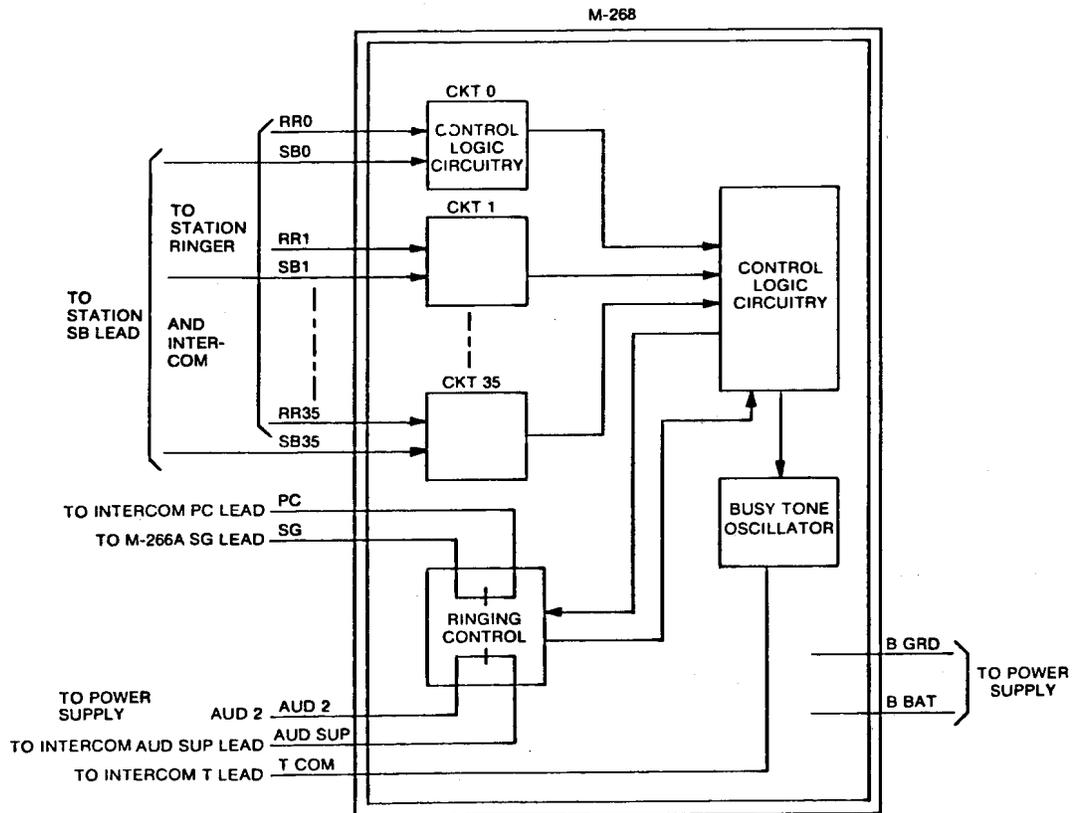

Figure 3
3.07 When all wiring is completed, call each station twice - once with the station on-hook, then with the station off-hook on a non-intercom line. When on-hook the station should ring. When off-hook, the station should not ring and busy tone should be imposed on the intercom line. The functional schematic of M-268 is shown in Figure 3.